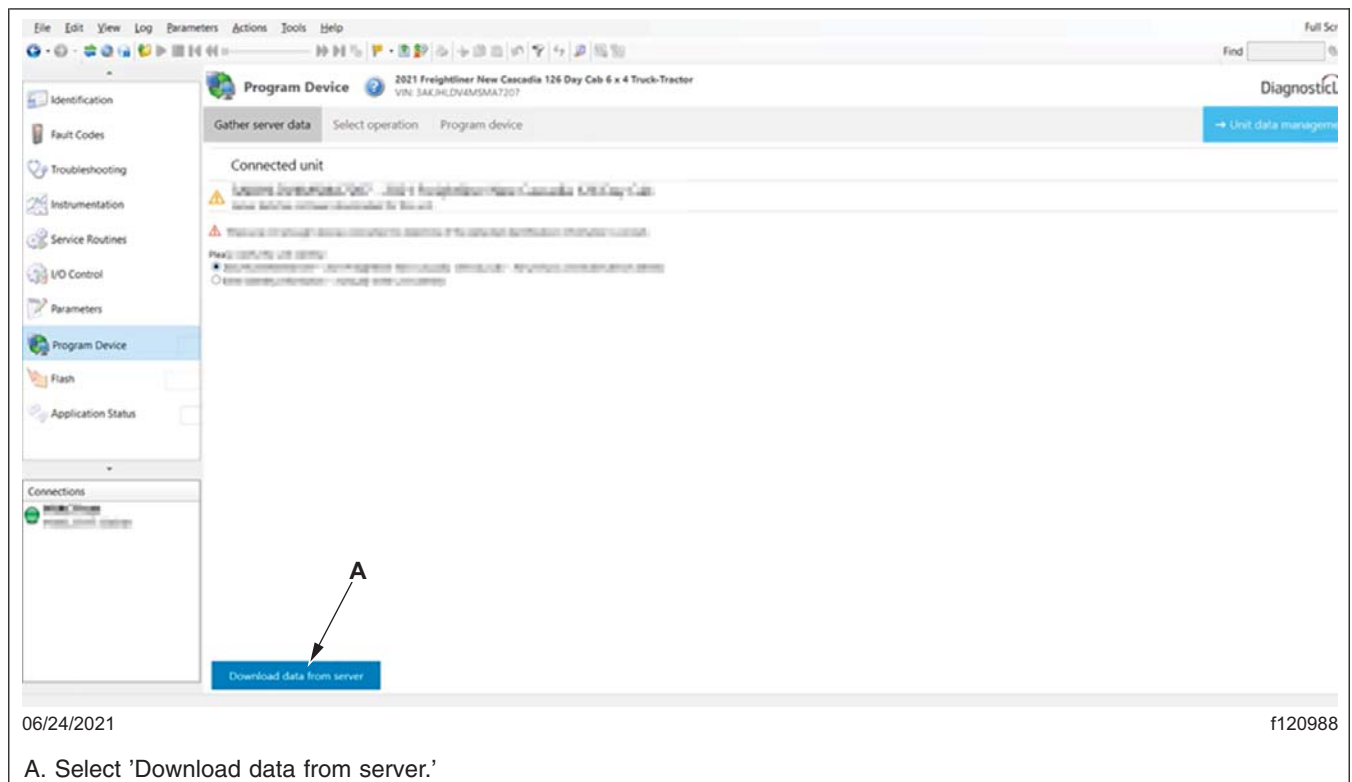

Fig. 8, Verifying VIN and Selecting Download Data from Server
4. Verify that the correct vehicle identification number (VIN) information is populated in the center window, as shown in Fig. 8, then select 'Download data from the server' on the lower left of the screen.